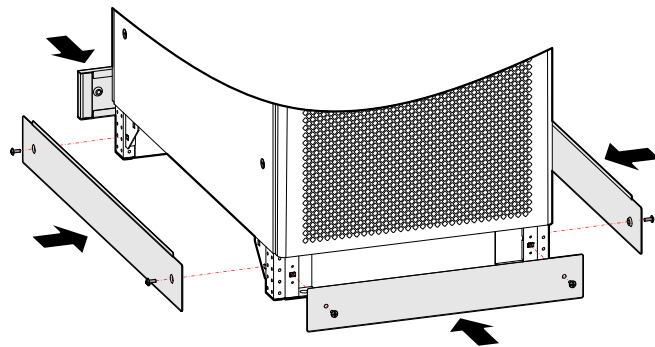

Figure3-20 Install the bottom cover plates
- Step 5 Reinstall the bottom cover plates, as shown in Figure3-20.